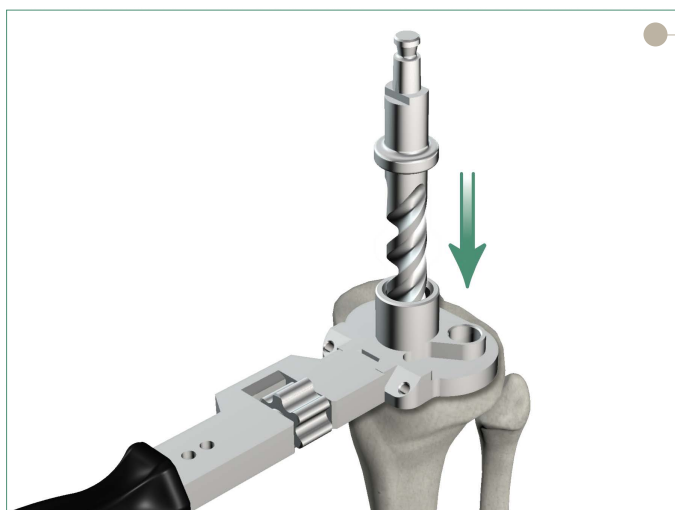

Figure 20
- ▶ Using the Pediatric Stem Drill, prepare for the central tibial stem by drilling through the raised central hole in the Pediatric Tibial Template (**Figure 20**).